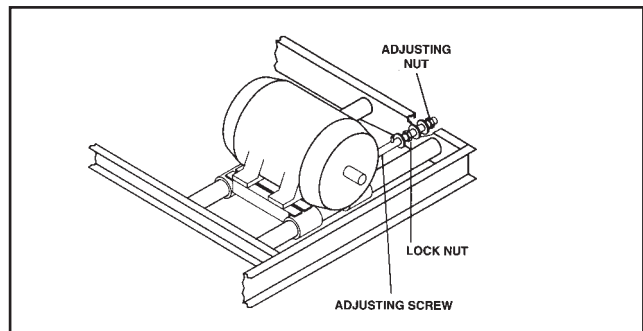

Figure 5: Adjustable motor base VT0, VT1, VTL, VF1, VFL, VC1, VCL
The motor base slides and adjusting screw (see Figure 5) should be coated twice a year using a good quality corrosion inhibiting grease such as one of those recommended for lubricating the fan shaft bearings (see page N57).
1. Loosen the locking nut (See figure 5, 5A, 5B)